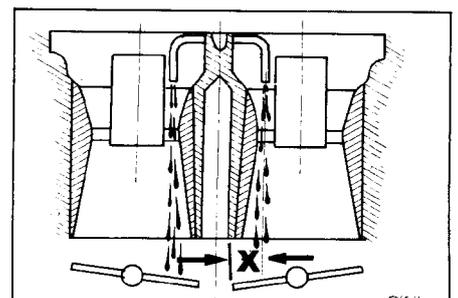

Fig. 9 Accelerator pump jets
- c) Operate accelerator pump and observe the direction of fuel jets relative to throttle plates. The fuel jets must hit the throttle plates as shown in Fig. 9. If dimension 'X' is outside specified limits, adjust by bending fuel nozzle to obtain correct setting. Refit carburettor upper body.